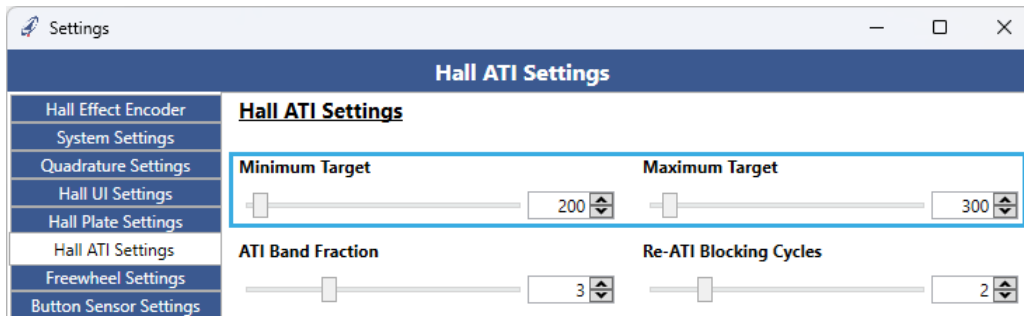

Figure 5.4: Hall Targets
1. Set the reference counts. This is done by setting the **Minimum Target** and **Maximum Target** values, shown in Figure 5.4. The required reference counts is automatically calculated.